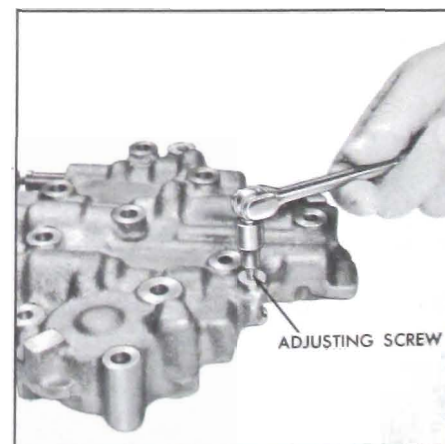

Figure 5-575
11. If removal is necessary, back out adjusting screw **EXACTLY FOUR TURNS**. Remove bore plug, spring and 1-2 accumulator valve. See Figure 5-575.